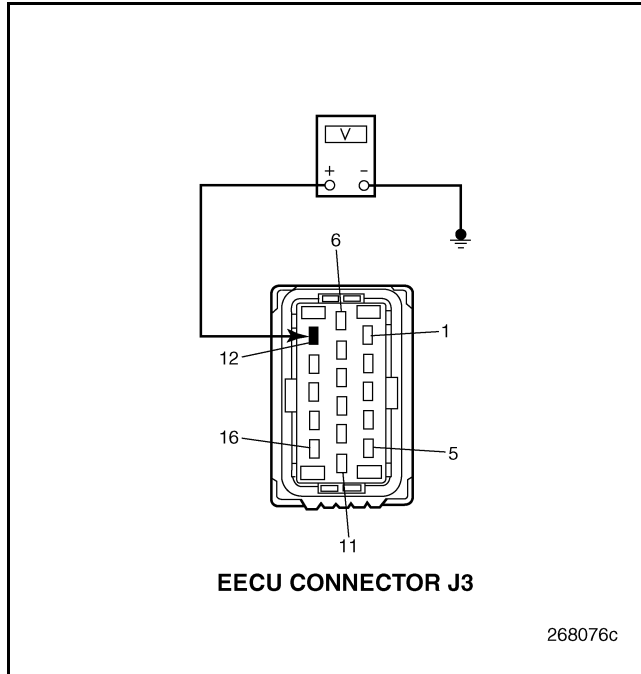

Figure 781
5. Measure the voltage between the EECU connector J3 pin 12 and a good ground (see Figure 781).